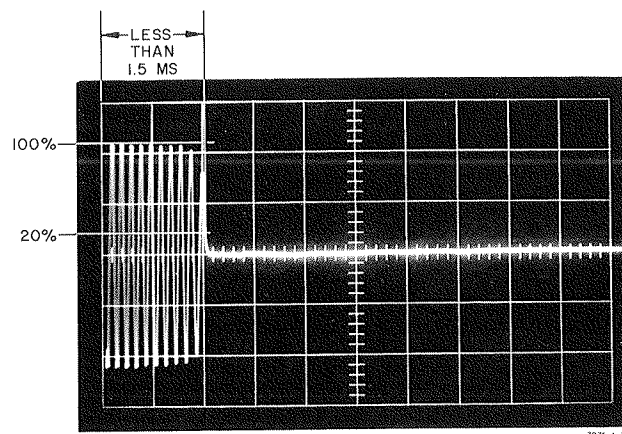

Figure 5-4. Stop Characteristics (0.5 ms/cm)
d. To determine stop time, adjust oscilloscope to trigger on the trailing edge of the drive command and set horizontal sweep to 0.5 ms/cm. Verify that reverse stop time display resembles trace shown in figure 5-4 and that stop time is less than 1.5 ms.
h. Store one stop cycle (figure 5-4) on the memory oscilloscope.